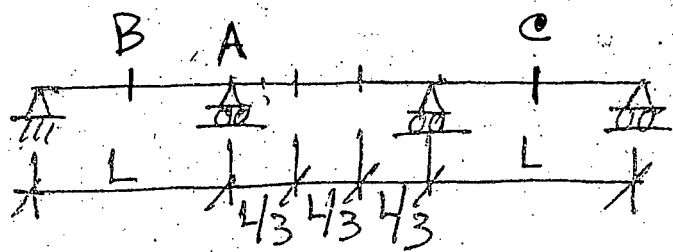

Fig. 11
6. (a) Draw qualitative influence lines for bending moment at A, B, shear force at C and reaction at A of the continuous beam in Fig. 11. (8)